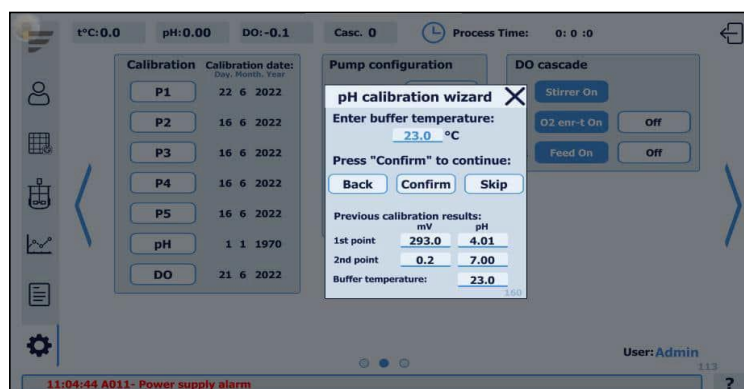

Figure 11.4. Buffer temperature entry window
- 2) Two options for pH calibration have been envisioned: (1) pH Correction and (2) pH Calibration;
- 4) Enter the buffer solution temperature in the pH calibration window by clicking on the digits (which are indicated under the title “Enter buffer temperature”) (see Figure 11.4);